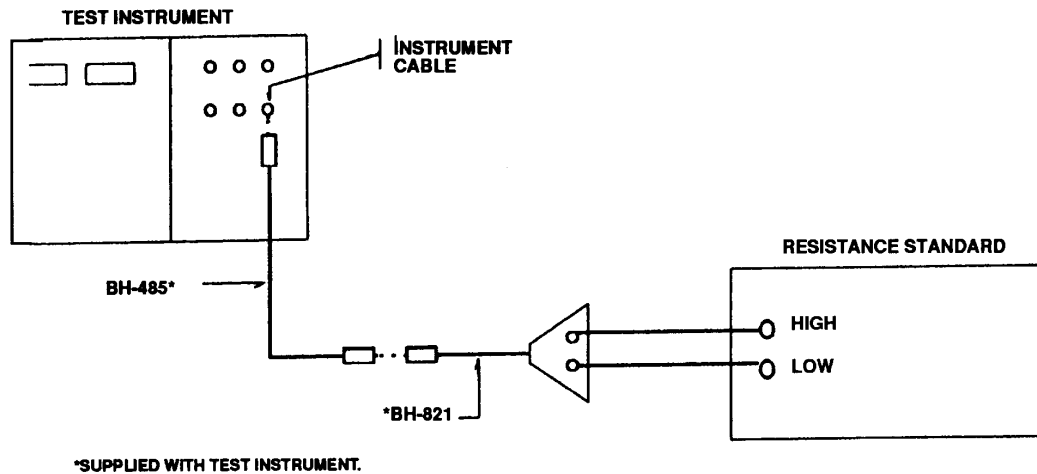

Figure 11. Insulation resistance and resistance check.
- (1) Disconnect heater probes and heater cable from TI.
- (2) Set **FUNCTION SELECT** switch to **INSUL**. **INSULATION RESISTANCE** meter should indicate infinity.
- (3) Connect equipment as shown in figure 11.
- (1) Replace BH-821 adapter with BH-823 adapter in equipment set up in figure 11.
- (2) Set **FUNCTION SELECT** switch to **RES** and **RESISTANCE CHECK** switch to **NULL BAL**.
- (3) Disconnect resistance standard and adjust **RESISTANCE & A/C INDICATOR CHECK** meter for **0** indication.
- (4) Set **RESISTANCE & A/C INDICATOR CHECK** switch to **22 Ω**.
- (5) Reconnect and set resistance standard for 21 Ω. **RESISTANCE CHECK** meter pointer will deflect to the left of 0-center, to a point greater than 0.4 Ω indication. Set resistance standard for 23 Ω. **RESISTANCE CHECK** meter pointer will deflect to the right of 0-center, to a point greater than 0.4 Ω indication; if not, perform **b** (1) and (2) below.
(1) Replace BH-823 adapter with BH-822 adapter in equipment setup shown in figure 11, and remove resistance standard connection.
(2) Set **FUNCTION SELECT** switch to **A/C IND CHK** and **RESISTANCE & A/C INDICATOR CHECK** switch to **NULL BAL**.
(3) Connect multimeter between (+) and (-) eyelets on BH-822 adapter. (If adapter is for D'Arsonval type indicator, A is (+) and B is (-).)
(4) Turn **A/C IND ADJ** potentiometer from ccw to cw end while observing multimeter indications. Range on potentiometer should be approximately 0 to 65 mV dc and there should be no open spots throughout the range. During this check, with **TEMPERATURE** switch set to **OPERATE, TEMP °C**, indicator should follow setting of potentiometer and display readings throughout range of ambient temperature to **1399 °C**.
(5) Set **RESISTANCE & A/C INDICATOR CHECK** switch successively to 8 Ω , 15 Ω , and 22 Ω positions. In each of the positions the multimeter will indicate higher values than when **RESISTANCE & A/C INDICATOR CHECK** switch is in **NULL BAL** position.